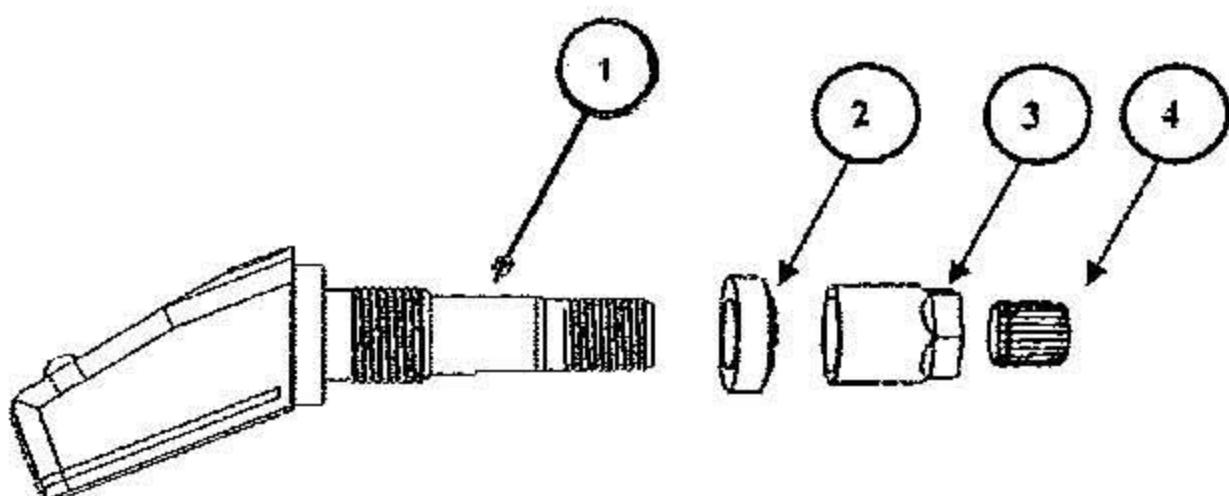

Figure 1
**Part assembly sequence is shown in Figure 1.**